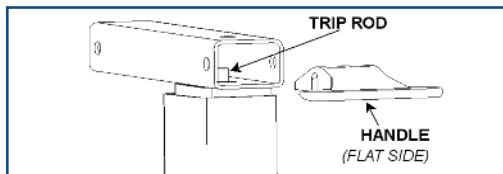

FIGURE 2
- Place the Top (#1) on a flat surface, with the Top Bracket (#9) facing upward. Then, while holding the Trip Handle (#4) in place so it doesn't fall out, insert the Column (#6) into the Top Bracket (#9). Align the holes in the Column foot (#6), the Trip Handle (#4) and the Top Bracket (#9). Install both bolts (#2) and both nuts (#5) thru these aligned holes with the two (2) 7/16" wrenches. Fig. 2